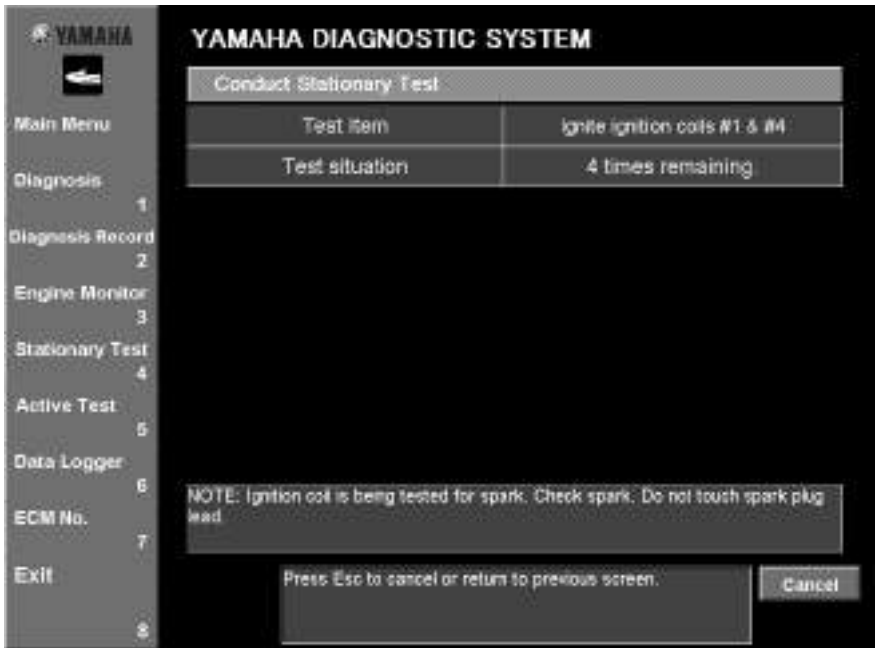

Fig. 43
- While checking the information that appears in the **Test situation** column, follow the test instructions in the messages that are displayed. (See fig. 43.)
- To stop the stationary test, click the **Cancel** button. (See fig. 43.)